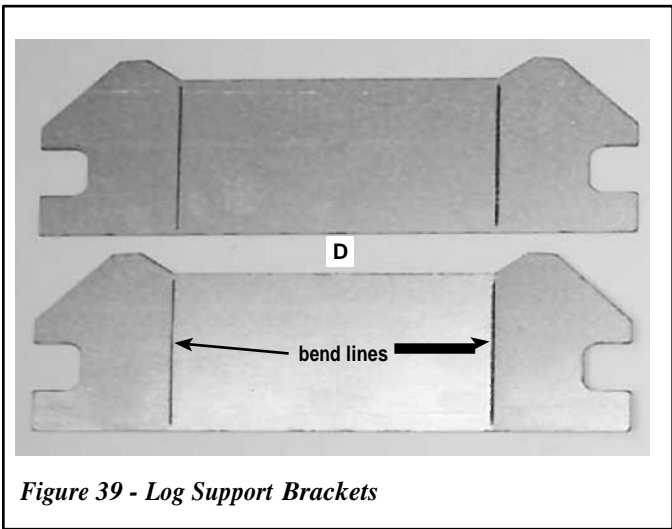

Figure 39 - Log Support Brackets
1. Remove the two log support brackets (D) from the box and bend the ends of the brackets 90 degrees at the bend lines. See Figures 39 and 40.